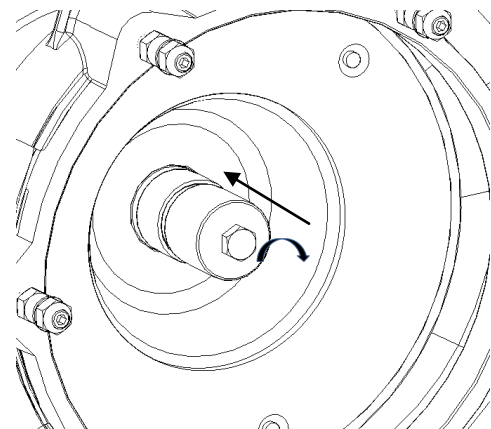

Figure 23: Setting of working length with mounting sleeve
- Now put the screw sleeve onto the shaft end and fasten the sleeve with a hex screw M10x25 up to the shoulder. (Thus the working length of the mechanical seal is set. This is essential for a proper functioning of the mechanical seal (figure 23).